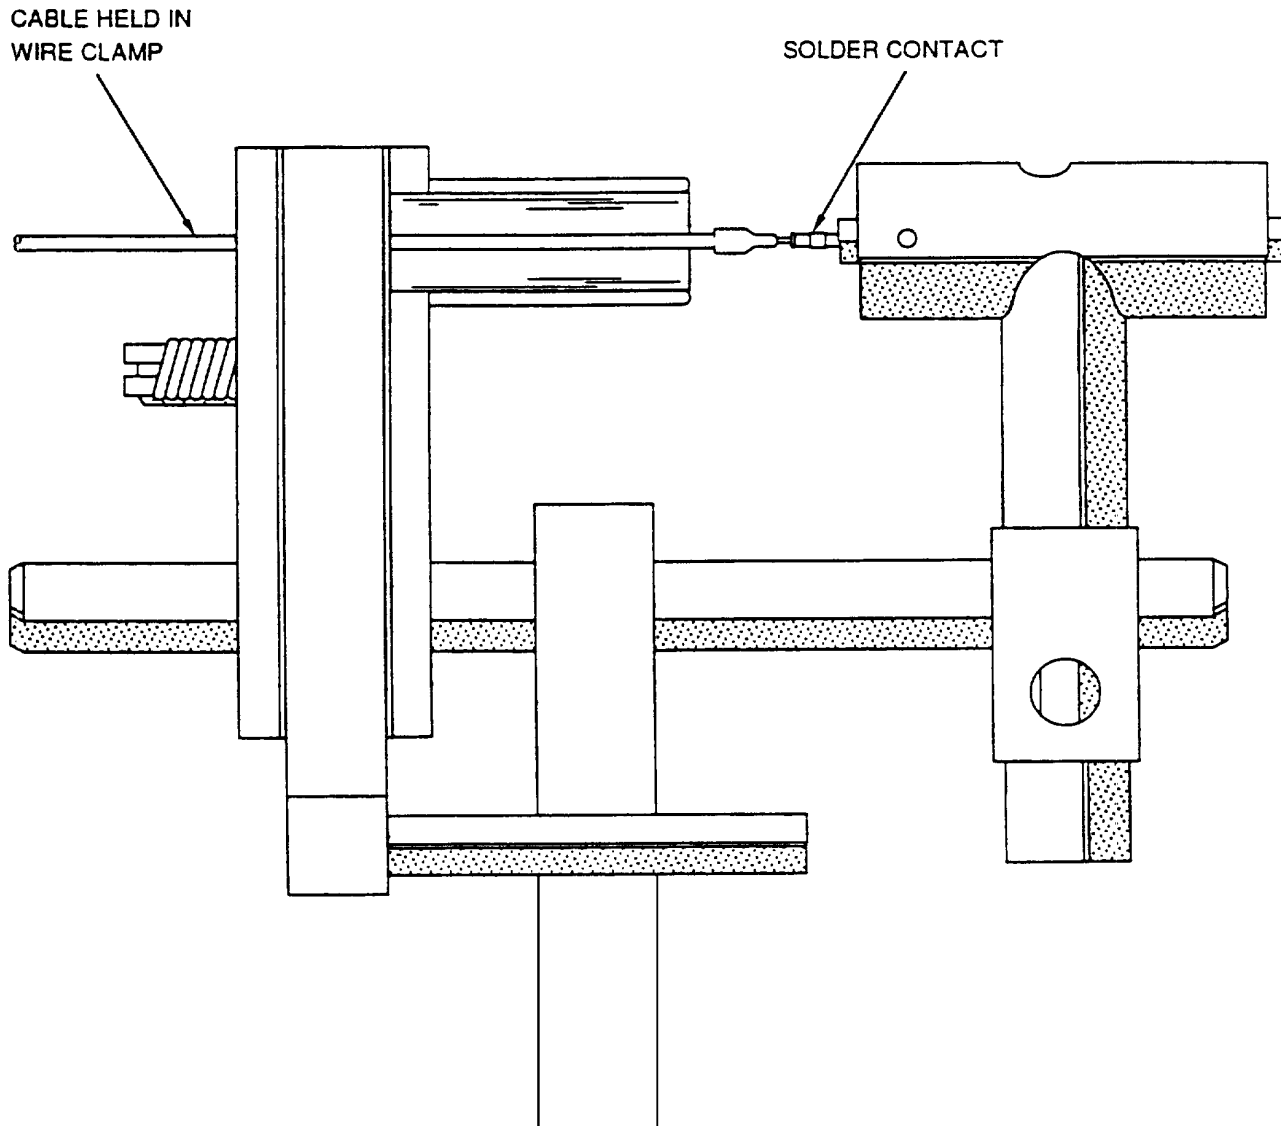

Figure 15. Solder Contact and Cable Prepared for Heating
- c. Insert contact and cable assembly into holding fixture and adapter (Figure 15). End of adapter marked P is for plug (pin) contacts and end marked R is for receptacle (socket) contacts.
- c. Insert contact and twisted pair assembly into holding fixture and adapter (Figure 15). End of adapter marked P is for plug (pin) contacts and end marked R is for receptacle (socket) contacts.